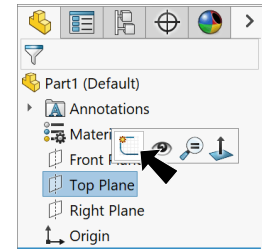
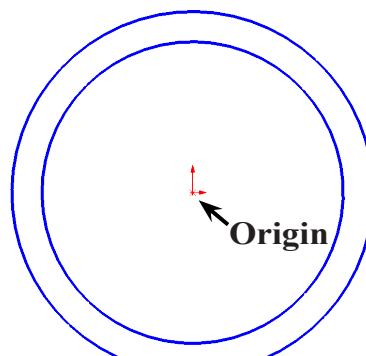
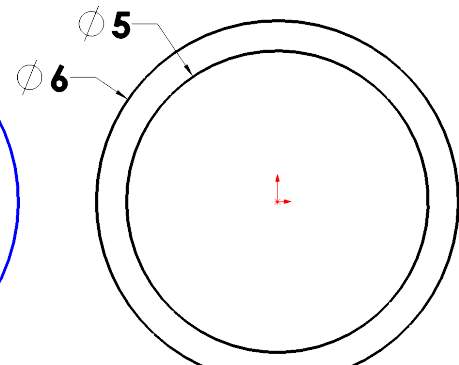
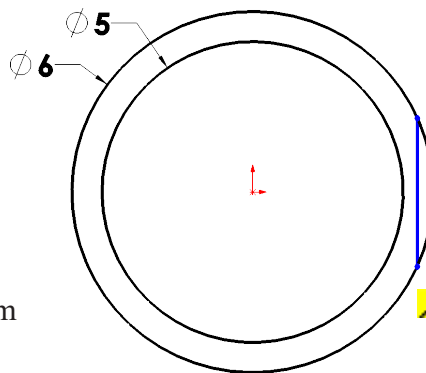

Fig. 1
Fig. 2
Fig. 3
Fig. 4
Step 2. Click **Top Plane**  in the Feature Manager and click **Sketch**  on the context toolbar, **Fig. 1**.
Step 3. Click **Circle**  (S) on the Sketch toolbar.
Step 4. Sketch **two circles** at Origin , **Fig. 2**.
Step 5. Click **Smart Dimension**  (S) on the Sketch toolbar.
Step 6. Dimension **diameters 5 and 6**, **Fig. 3**.
Step 7. Click **Line**  (L) on the Sketch toolbar.
Step 8. Sketch **line vertical line across outside circle**, **Fig. 4**.